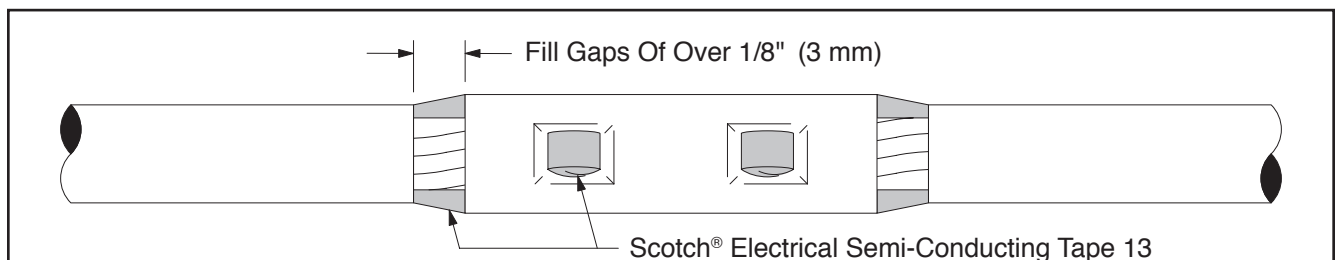

Figure 8
- If a gap greater than 1/8" (3 mm) exists between the connector and cable insulation, fill the gap with Scotch® Electrical Semi-Conducting Tape 13 (Figure 8). **Do not exceed height of the connector.**
- For indent crimped connectors only:** Fill connector indents with 13 tape (Figure 8).